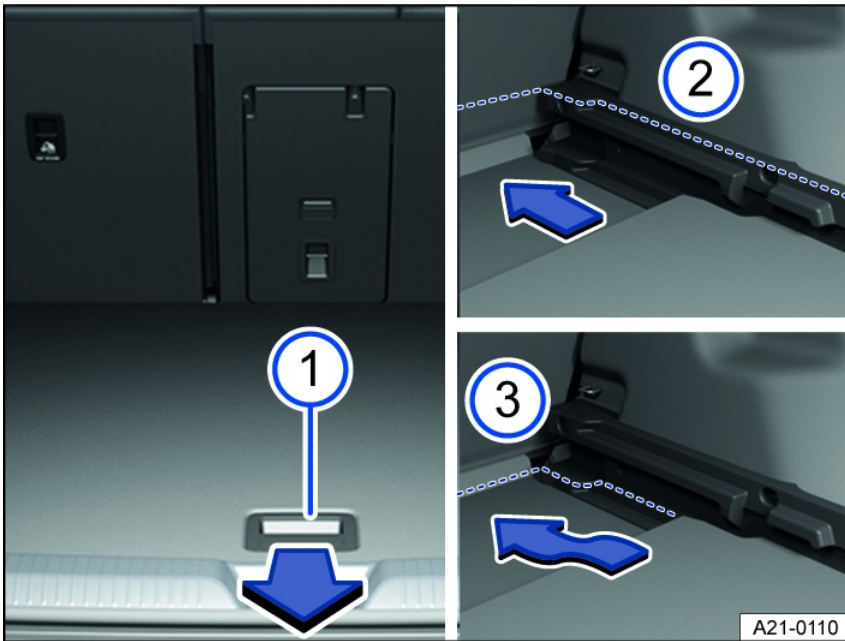

Fig. 118 In the luggage compartment: Adjusting the height of the second luggage compartment floor.
1. Lift the luggage compartment floor using the handle *fig. 118* and pull it backward in the direction of the arrow and out of the guides on the sides of the luggage compartment.
2. Insert the luggage compartment floor into the guides at the desired height *fig. 118* or ③ and push it forward as far as it will go.